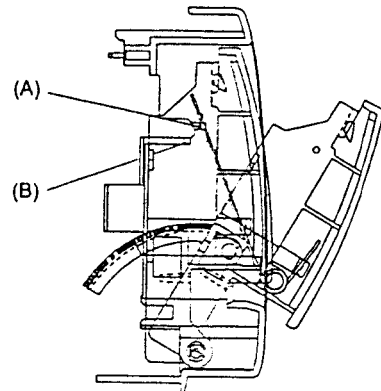

Fig. 1
Set the door spring of the DECK I side to position (A) as shown in Fig. 1. Then, erect the front panel assembly vertically.